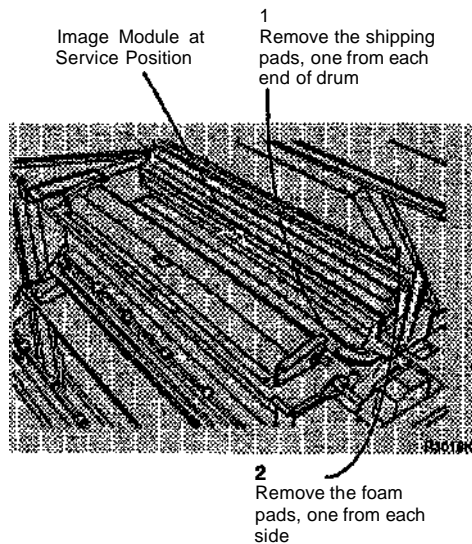

Figure 5. Removing the Shipping Pads
4. Open the Media Drawers (3) and remove the packaging material from the Media Tubes.
8. (Figure 5): Remove the shipping pads located near the ends of the Image Module.